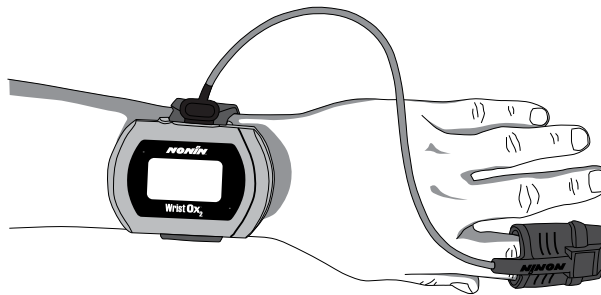

Figure 21: Apply Sensor to Patient
8. Apply the sensor to the patient (figure 21). Refer to the sensor Instructions for Use for proper sensor application sites and sensor application cautions and warnings.